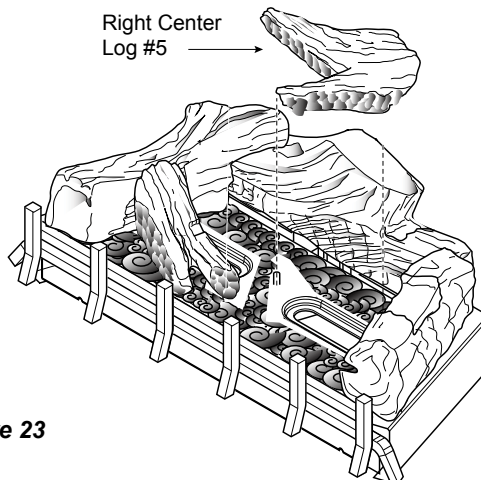

Figure 23
- Set right center log #5 on center pin to the left of right base log. *Figure 23*